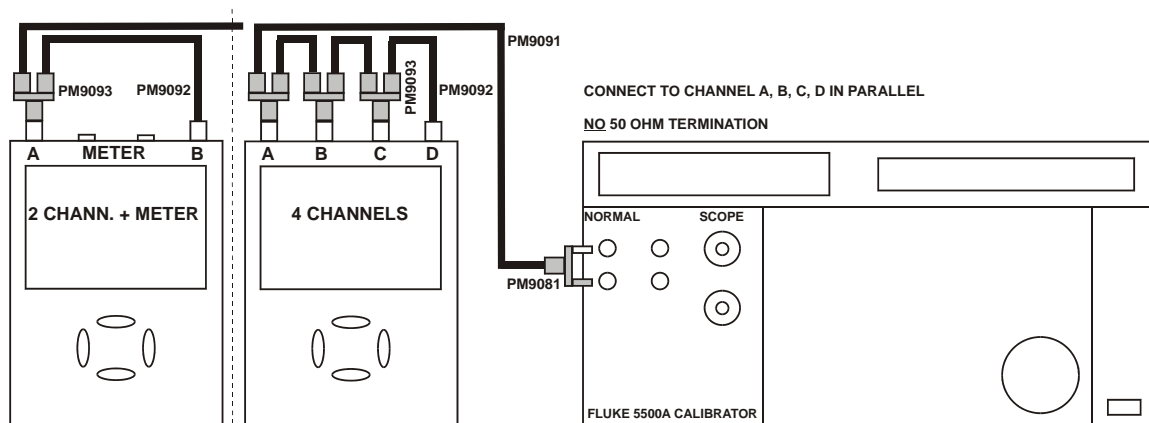

Figure 5-16. Test Tool Input ABCD to 5500A Normal Output
2. Connect the Test Tool to the 5500A as shown in Figure 5-16.